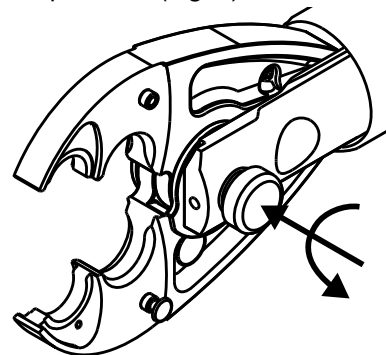

Figure 3
1. Press and twist a quarter turn left on the lock pin. Release, the pin should spring back further than in the locked position. (Fig. 3)